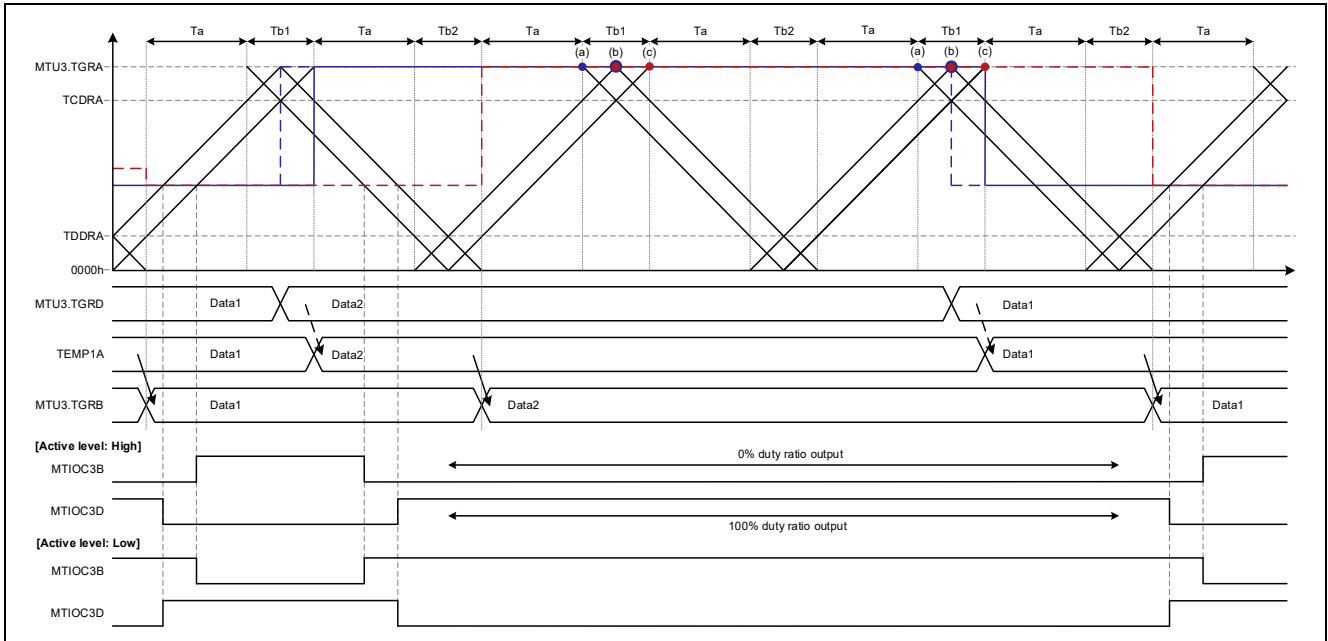

**Figure 1.4 Complementary PWM Mode 1 Operation Example
- [Operation example 2] Figure 1.4, Complementary PWM Mode 1, Output Start: Crest, Ta Interval Overwrite
Figure 1.4 shows an operation example of buffer overwrite in the Ta interval in complementary PWM mode 1. Except for the difference in the buffer overwrite timing, the operation is the same as that shown in Figure 1.3.